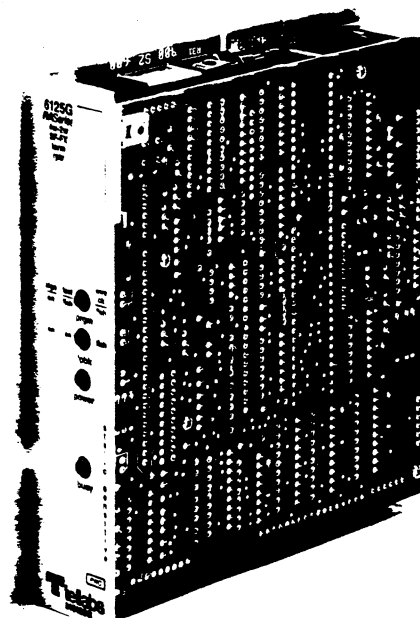

figure 1. 6125G RA Series 4Wire-to-2Wire SF-to-FXS/FXO/ARD Terminal Repeater module
- 1.01 The 6125G RA Series 4Wire-to-2Wire SF-to-FXS/FXO/ARD Terminal Repeater module (figure 1) provides transmission and signaling interface between a 4wire facility that uses 2600Hz single-frequency (SF) signaling and a 2wire metallic link that uses either foreign-exchange station-end (FXS), foreign-exchange office-end (FXO), or automatic ringdown (ARD) loop signaling. The FXS and FXO signaling modes are normally used at the station-equipment and switching-equipment (office) ends, respectively, of foreign-exchange (FX) and off-premises-station (OPS) circuits. On these circuits and on ARD circuits, the 6125G provides bidirectional signaling conversion, active level control and amplitude equalization in one or both channels (transmit and receive), and impedance matching on the facility side. The primary feature of the 6125G (a Type 10 module) is its remote diagnostic, and troubleshooting capabilities. In remote alignment, both transmission levels and amplitude equalization are set automatically from a remote central test center (CTC). This alignment takes place at transmission level points, or TLP's (0dBm0), referenced to +5dBm.